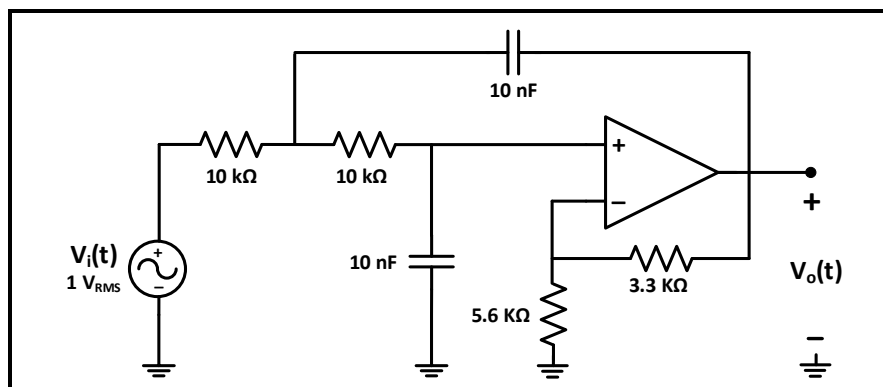

Figure 10.6: Second Order Low Pass Butterworth Filter
1. Connect the circuit of Figure 10.6, with a sinusoidal input voltage at 1 V_{RMS} .
2. Repeat the same steps in part A for the circuit of figure 10.6 but change frequency according to Table 10.2 **staying in the range (100 Hz-30 kHz)**, and record results in the same table.